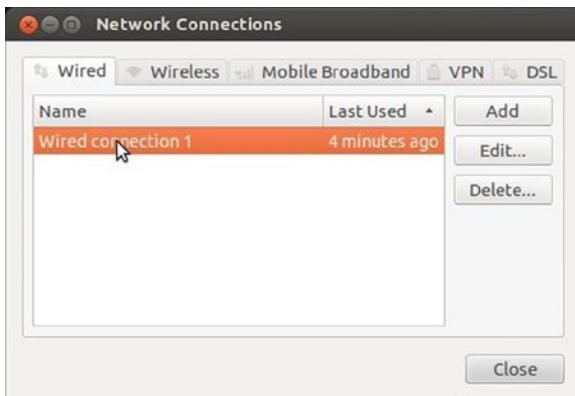

Figure 5-12. Selecting the wired connection
3. From the Wired tab, select the wired connection and click the Edit button, as shown in Figure 5-12.